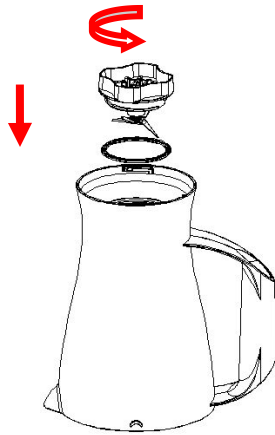

Fig.3
- 1) Invert the jar onto a level surface, holding the jar handle, put the seal ring 2 and blade assembly onto the jar base bottom and secure the blade assembly by turning it anti-clockwise until tight (See Fig.3)